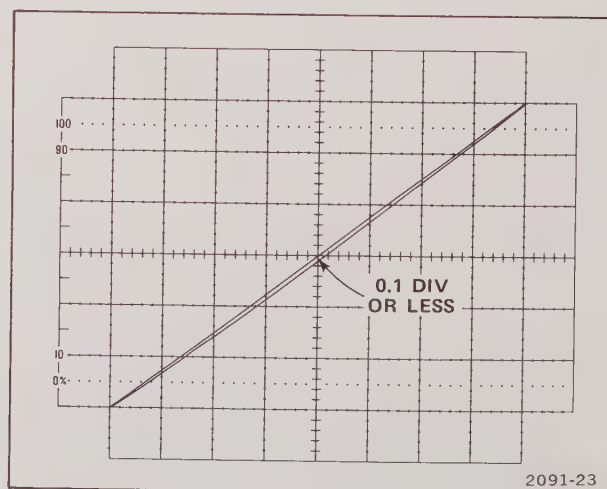

Figure 6-3. Typical horizontal and vertical phase difference display.
c. Set the sine-wave generator amplitude and the 607 Position controls for an 8-division diagonal display as shown in Figure 6-3.
- ✓ e. CHECK—That the diameter of the displayed ellipse measured vertically at the center of the graticule is 0.1 division or less (see Fig. 6-3). If necessary, adjust C470 (Phasing) to reduce phase shift.
f. INTERACTION—C470 (Phasing) affects the vertical amplifier frequency compensation. If adjustment was necessary in part (e), repeat the Vertical (Y) Gain and Compensation procedures in step C1.